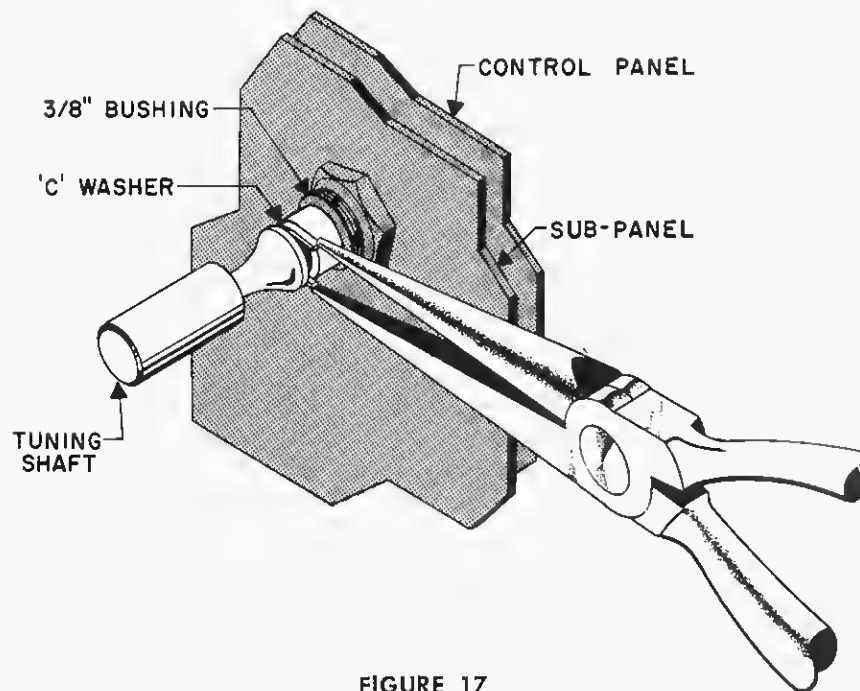

FIGURE 17
- ☒ Tuning shaft and two C washers. See Figure 17. Place a C washer in the groove near the center of the shaft. Lock it in place by pinching the ends of the washer with your longnose pliers. From the back of the control panel, insert the shaft through the $\frac{3}{8}$ " bushing marked BANDSPREAD. Place the second C washer in the remaining groove and lock it in place with your longnose pliers.